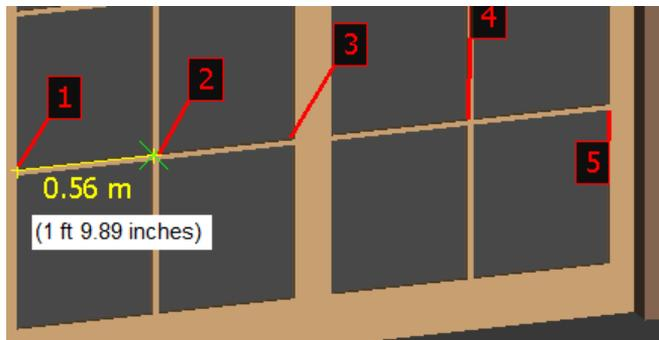

Figure 3-39 Distance calculated between point 1 and 2
- Next, place the cursor on point 2 and click when the snap to vertex cursor appears; the calculated distance is displayed, as shown in Figure 3-39.